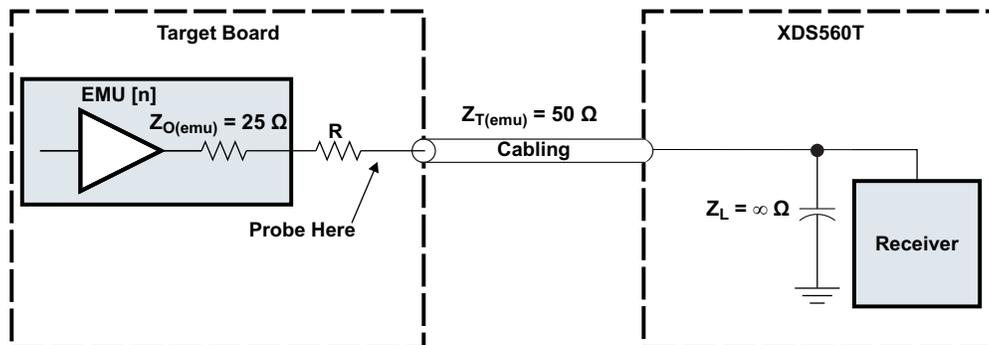
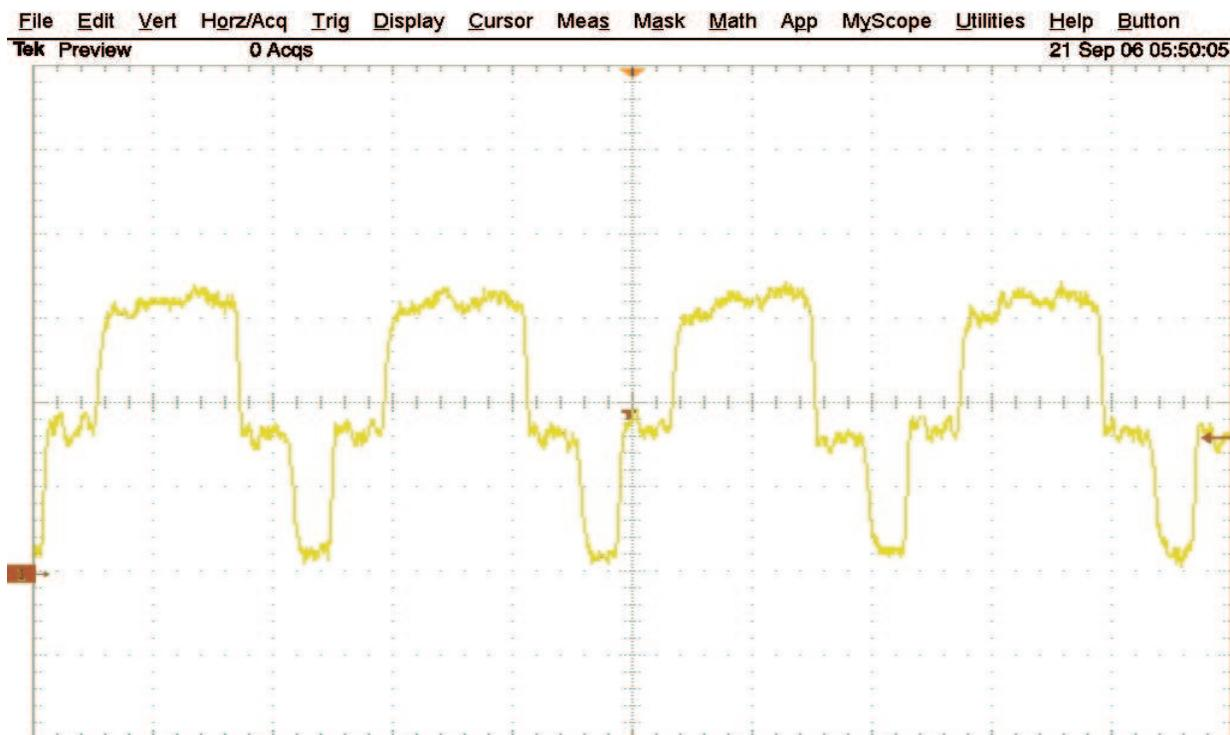
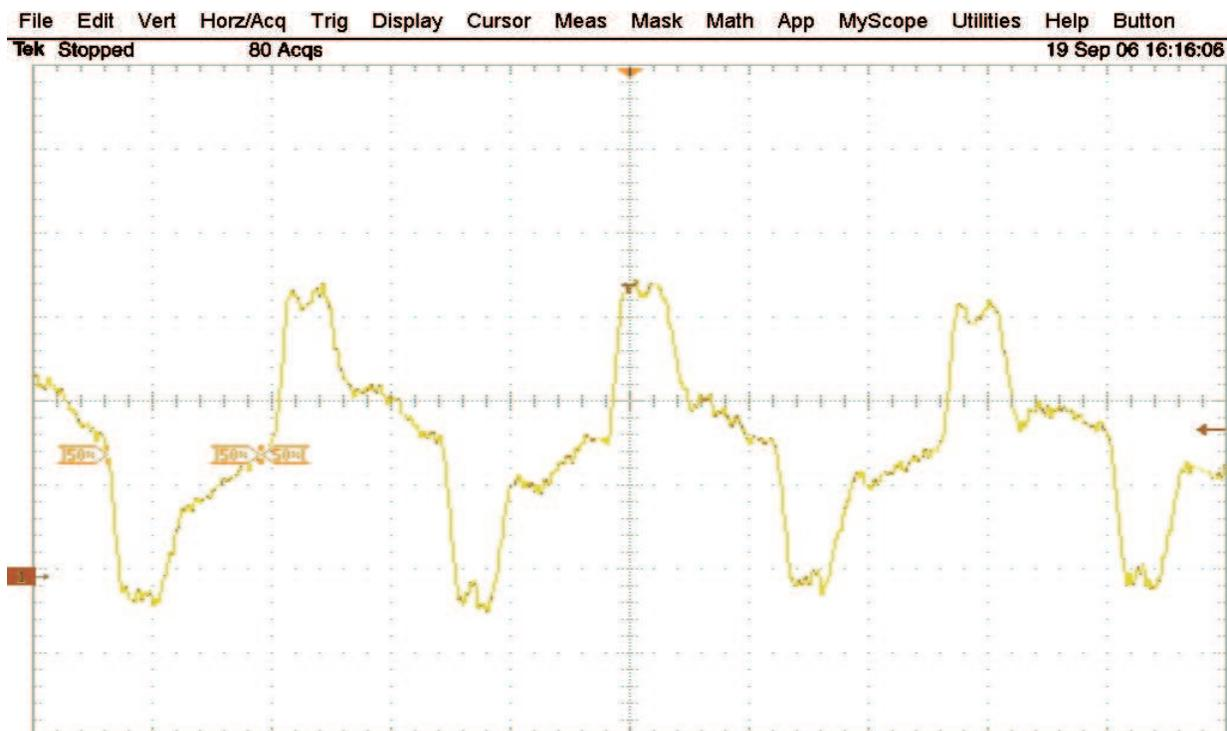

Figure 7. EMU Series Termination
Figure 8. EMU Signal at Probe Point With Matched Impedance
Figure 9. EMU Signal at Probe Point With Impedance Mismatch
The series termination, also known as a *source termination*, is a series resistor applied at the source end of a signal. A series termination should only be used on a point-to-point transmission lines, all EMU signals should be routed point-to-point. The series termination resistor should be chosen so the value of the resistor (R) and the output impedance of the EMU pin I/O buffers ($Z_{O[emu]}$) equal the impedance of the transmission line ($Z_{T[emu]}$). Figure 7 illustrates the probe point when analyzing a series termination line.
When analyzing the EMU signals a high-impedance, low capacitance oscilloscope probe should be used. Waveforms should be analyzed at the receiver side of the series termination, as highlighted in Figure 7. Figure 8 and Figure 9 have been generated using this as an observation point and assuming a 3.3-V I/O.
Figure 8 illustrates the rising edge of an EMU signal with no impedance mismatch. This is the desired waveform. The ledge at the 50% point is caused by an expected reflection from the high-impedance termination at the end of the XDS560 trace pod cable. A t_1 of 4 ns represents the amount of time the EMU signal takes to leave the probe position, arrive at the high-impedance termination, and return as a reflection.
Figure 9 is an illustration of the rising edge of an EMU signal with an impedance mismatch. The output-impedance of the driver plus the series termination is greater than the impedance of the transmission line. In other words, $Z_{O[emu]} + R > Z_{T[emu]}$. In this case, a smaller series termination resistor should be chosen.